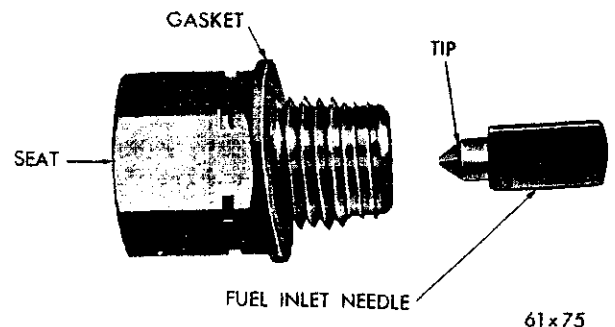
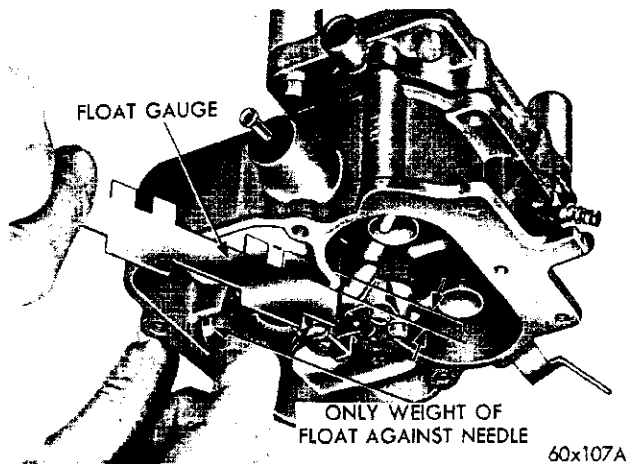

Fig. 14—Rubber Tipped Needle, Seat and Gasket
Fig. 15—Measuring the Float Setting
(1) To correctly set the float height when the carburetor is being overhauled, install the floats with the fulcrum pin and pin retainer in the main body.
(2) Install the rubber-tipped needle, seat and gasket in the body and tighten securely. (See Figure 14.)
(3) Invert the main body so that the weight of the float only is forcing the needle against the seat. Hold finger against the retainer to fully seat the fulcrum pin.
(4) Using Tool T109-230, or a "T" scale, test the float, as shown in Figure 15. There should be $\frac{3}{32}$ inch from the surface of the fuel bowl to the crown of each float at the center.